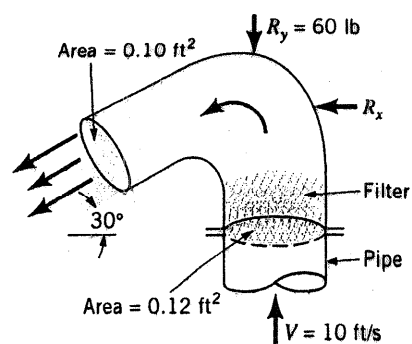

FIGURE P5.103
5.103 Water flows steadily in a pipe and exits as a free jet through an end cap that contains a filter as shown in Fig. P5.103. The flow is in a horizontal plane. The axial component, R_y , of the anchoring force needed to keep the end cap stationary is 60 lb. Determine the head loss for the flow through the end cap.